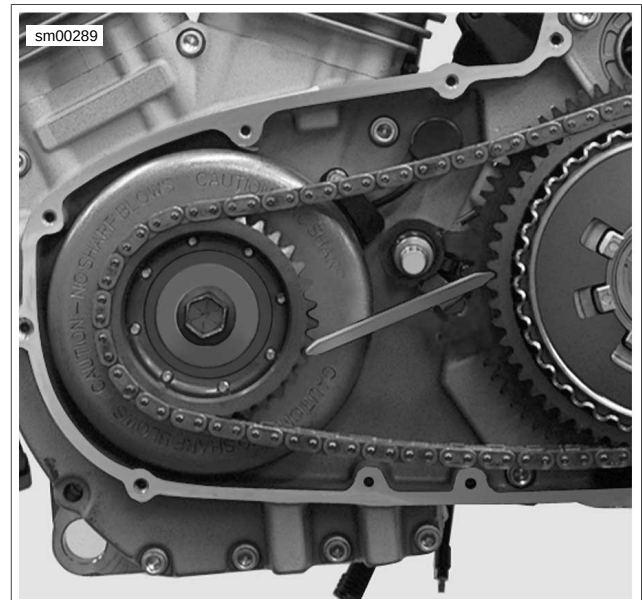

Figure 6-24. Sprocket Locking Link Tool (Specific tool for XB9 models, Specific tool for XB12 models)
- a. See Figure 6-24. Install SPROCKET LOCKING LINK (Part No. HD-38362 for XB9 models) or SPROCKET LOCKING LINK (Part No. HD-46283 for XB12 models).